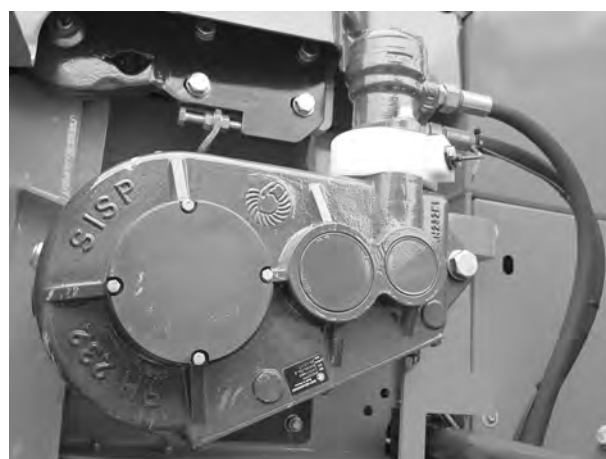

Fig. 103: Checking the conveyor belt motor
- The hydraulic motor of the conveyor belt drive, Fig. 103 Checking the conveyor belt motor